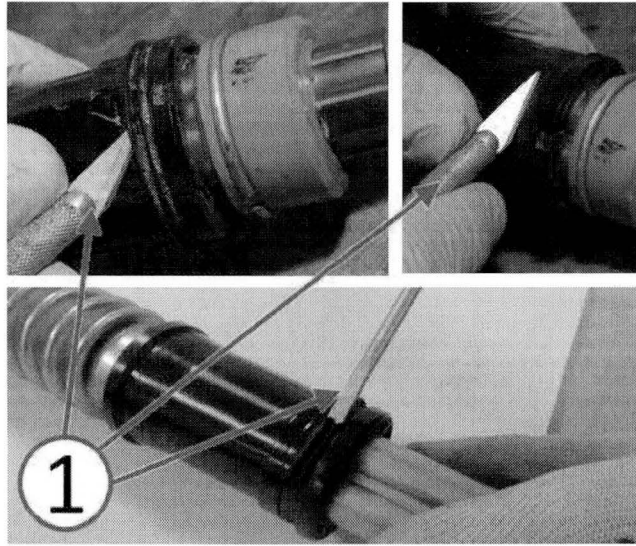

Fig. 4 Wiper Seal Removal
4. Using an appropriate tool, cut and/or scrap the rubber wiper seal from the plastic inner bearing sleeve (Fig. 4).